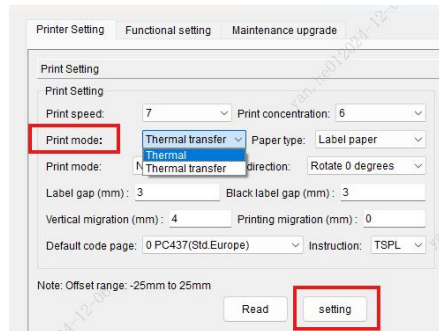

Fig.8
- ③ **Print Mode:** There are two printing modes, thermal and thermal transfer. Select according to the printing mode supported by the printer (shown in Fig.8).